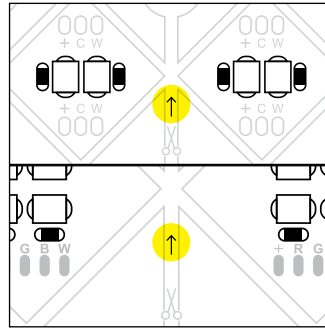

Figure 15
- Tunable white and RGBW light sheets have orientation arrows printed on them (figure 15).